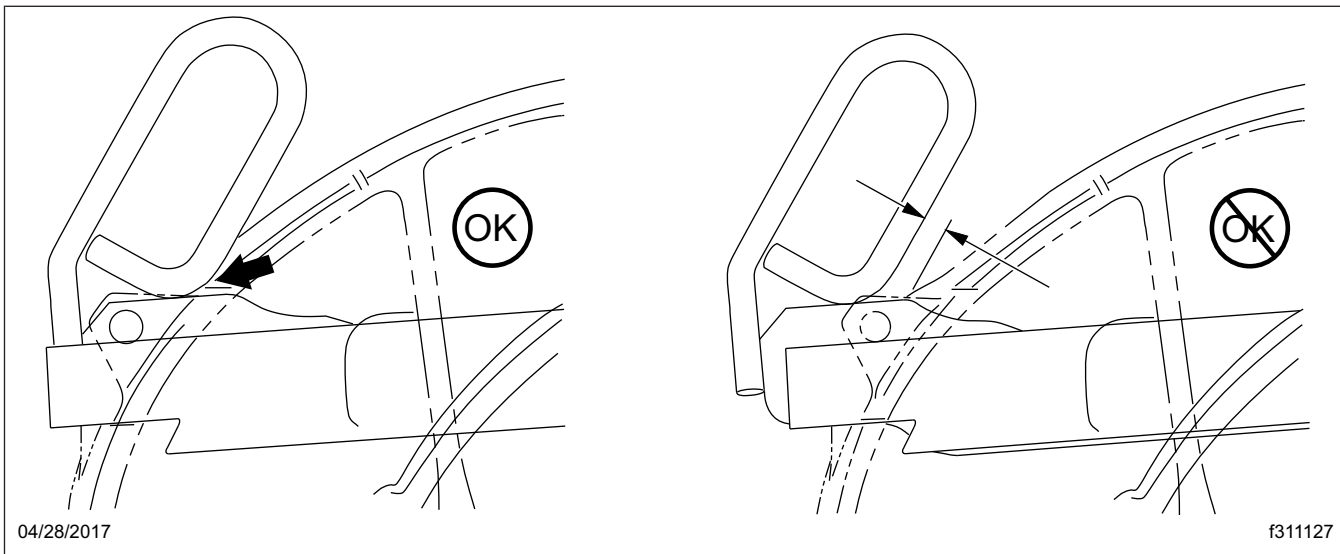

Fig. 18.8, Jost Release Handle Locked
11. Ensure that the release handle is in the locked position adjacent to the casting. See Fig. 18.8.